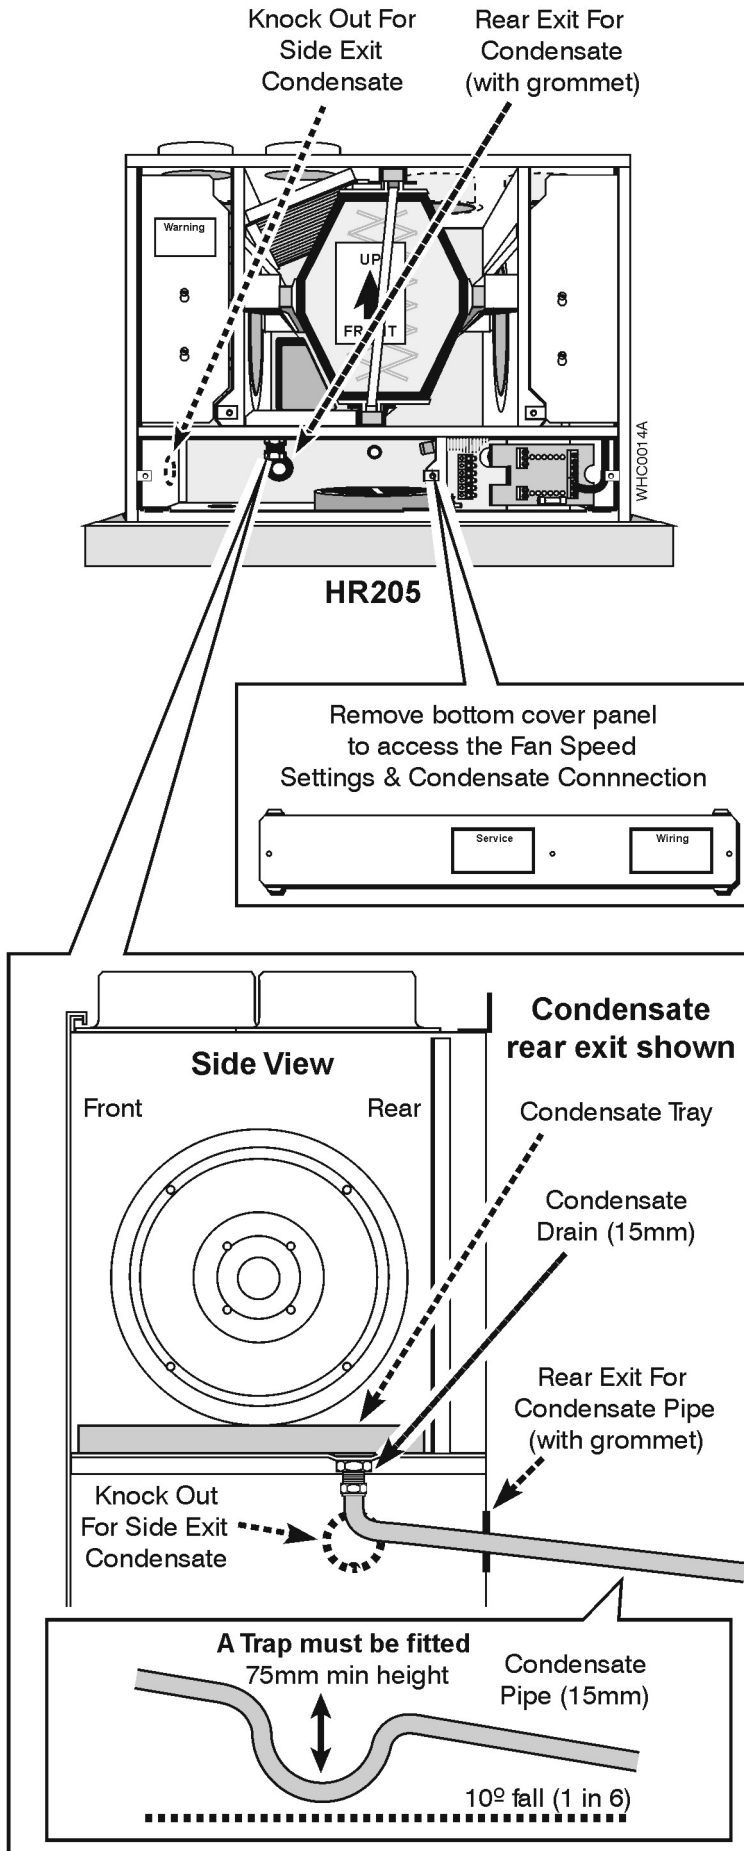

Fig. 17
1. The condensate pipe should have a continuous fall of 10° (1 in 6) with as much of the condensate pipe as possible run inside the property to avoid freezing. The pipe should also incorporate a trap with a minimum height of 75mm. See Fig. 17.